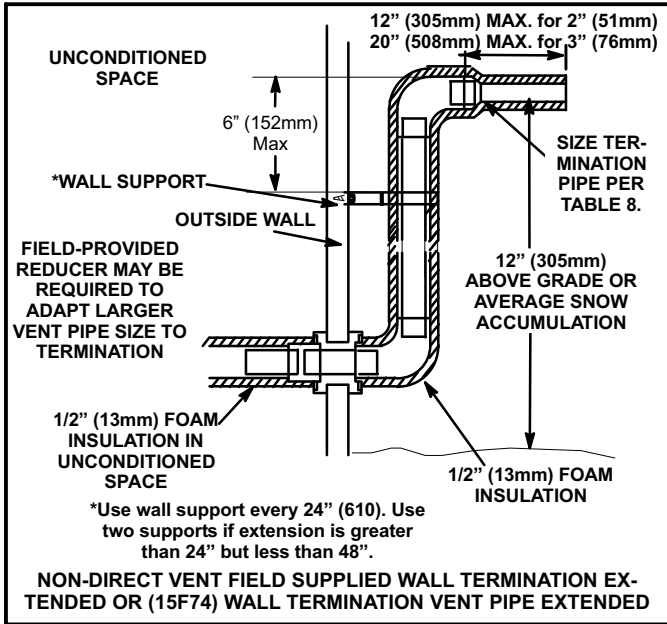

FIGURE 40
- 3 - If exhaust piping must be run up a side wall to position above snow accumulation or other obstructions, piping must be supported every 24 inches (610mm) as shown in figure 40. When exhaust piping must be run up an outside wall, any reduction in exhaust pipe size must be done after the final elbow.